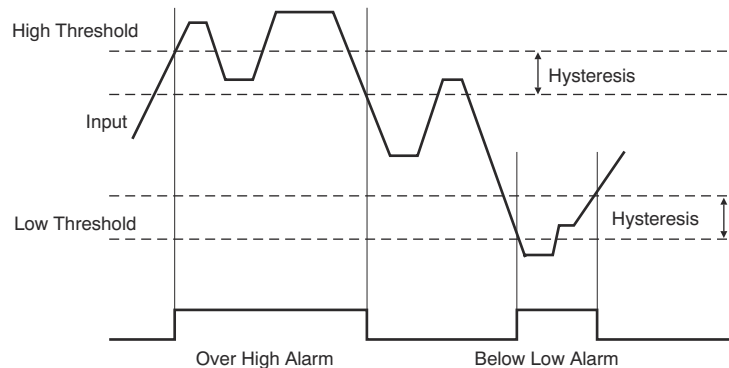

图 7-16. Hysteresis
The device continuously monitors the analog input channels and temperatures. If any alarms are out of range and the alarm is enabled, the alarm bit is set (1). However, the alarm condition is cleared only when the conversion result returns to a value of at least hys below the value of the high threshold register, or hys above the value of low threshold register. The hysteresis registers store the value for each analog input (CH0, CH1, CH2, and CH3) and temperature (D1, D2, and LT). hys is the value of hysteresis that is programmable: 0 LSB to 127 LSB for analog inputs, and 0°C to +31°C for temperatures. For the THERM-ALR bit, the hysteresis is fixed at 8°C. The hysteresis behavior is shown in 图 7-16.